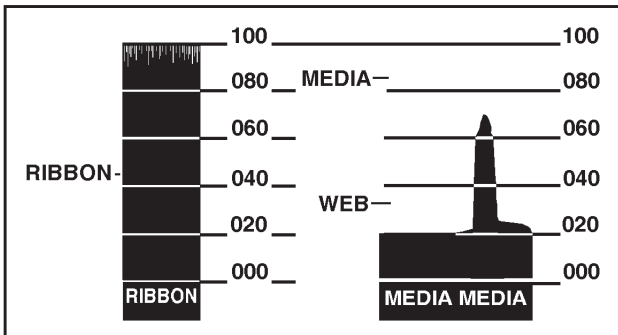

Figure 25
5. A profile of the media sensor settings will print (similar to the example in Figure 25). Upon completion, the printer will save the new settings in memory and the printer is ready for normal operation.